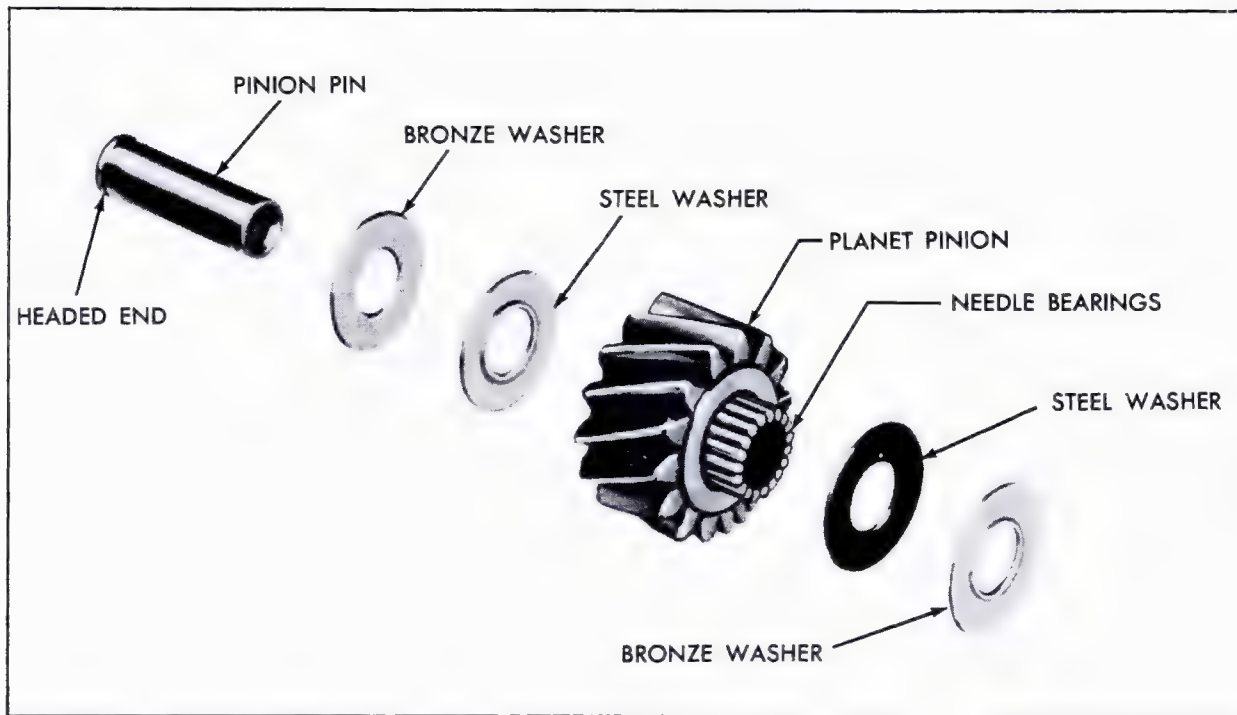

Fig. 7-97 Planet Pinion Assembly Disassembled
7. Place a bronze and steel thrust washer on each side of pinion gear with steel washers against gear, Fig. 7-97. Hold washers in place with petrolatum.